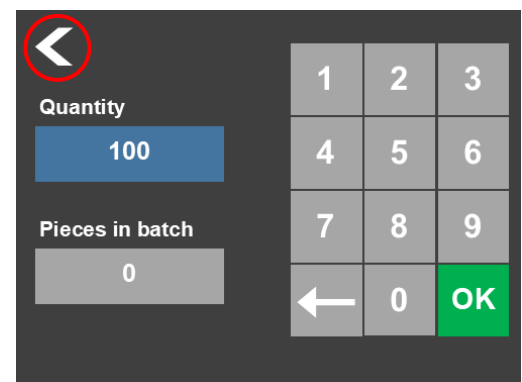

Figure 8.4.2
2. Enter the quantity and confirm with the OK button. See Figure 8.4.2.